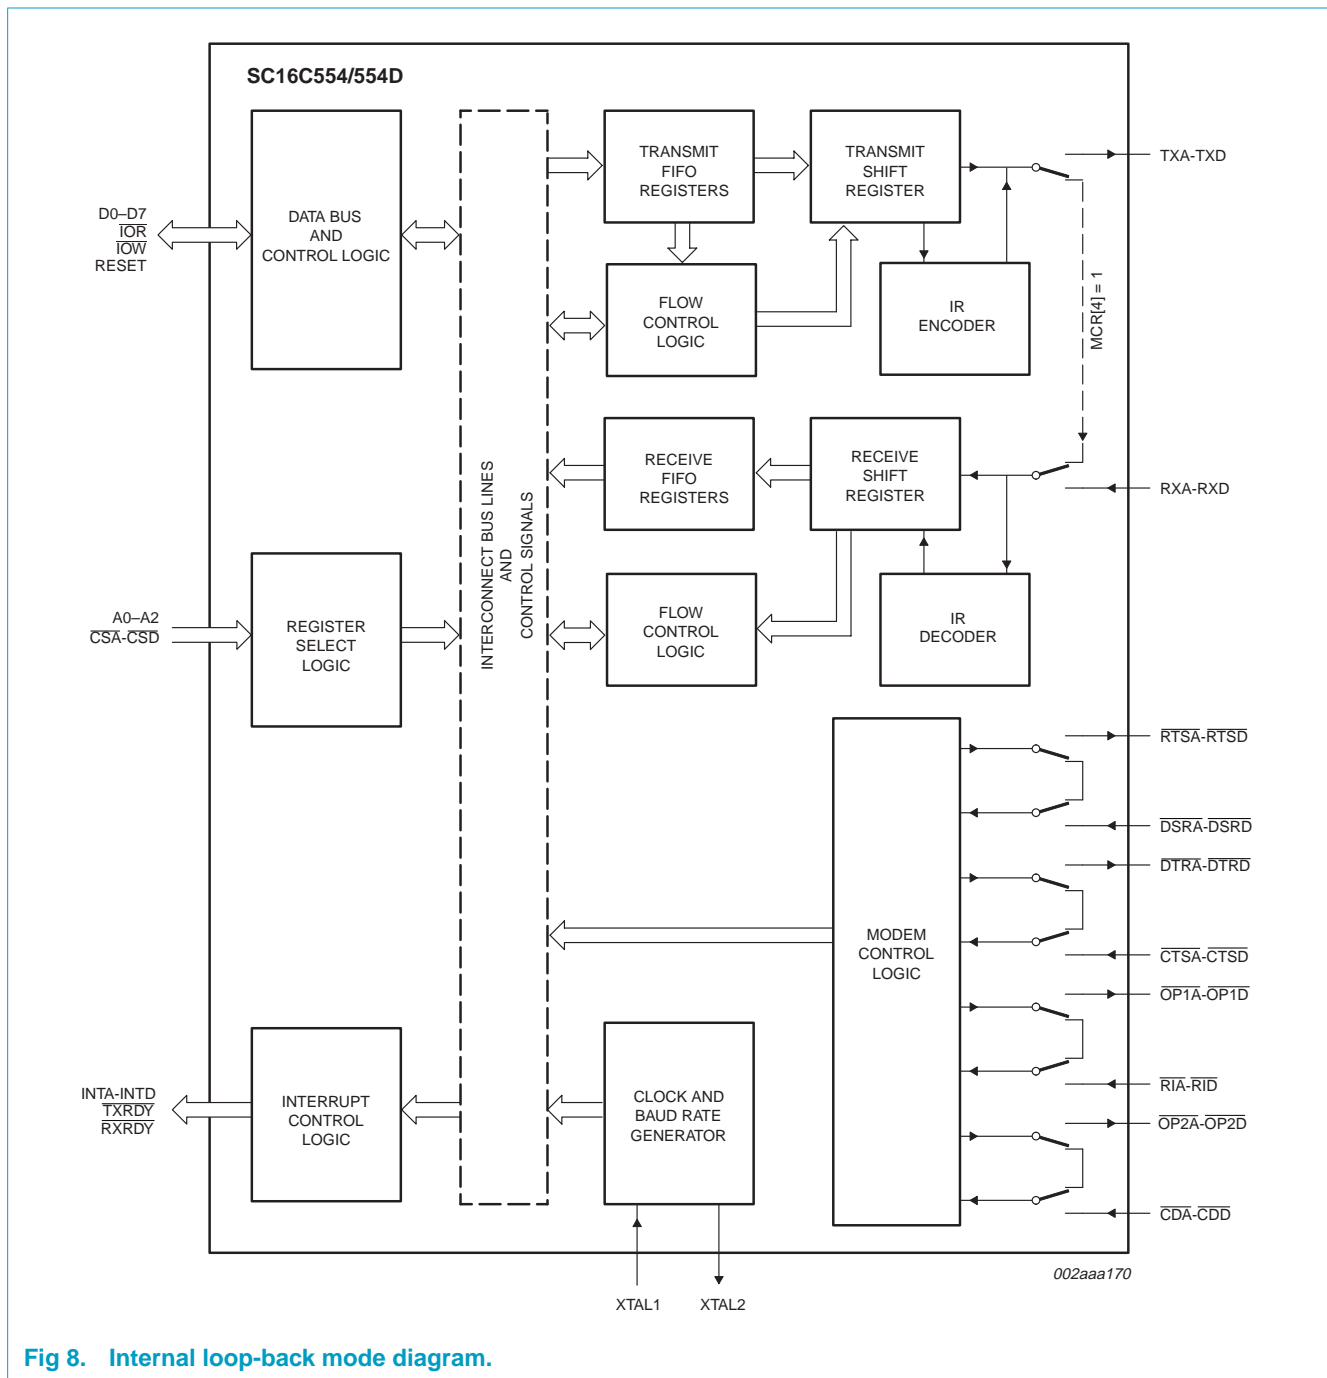

Fig 8. Internal loop-back mode diagram.
The internal loop-back capability allows on-board diagnostics. In the loop-back mode, the normal modem interface pins are disconnected and reconfigured for loop-back internally. MCR[0-3] register bits are used for controlling loop-back diagnostic testing. In the loop-back mode, $\overline{OP1}$ and $\overline{OP2}$ in the MCR register (bits 2-3) control the modem \overline{RI} and \overline{CD} inputs, respectively. MCR signals \overline{DTR} and \overline{RTS} (bits 0-1) are used to control the modem \overline{CTS} and \overline{DSR} inputs, respectively. The transmitter output (TX) and the receiver input (RX) are disconnected from their associated interface pins, and instead are connected together internally (see Figure 8). The \overline{CTS} , \overline{DSR} , \overline{CD} , and \overline{RI} are disconnected from their normal modem control input pins, and instead are connected internally to \overline{DTR} , \overline{RTS} , $\overline{OP1}$ and $\overline{OP2}$. Loop-back test data is entered into the transmit holding register via the user data bus interface, D0-D7. The transmit UART serializes the data and passes the serial data to the receive UART via the internal loop-back connection. The receive UART converts the serial data back into parallel data that is then made available at the user data interface D0-D7. The user optionally compares the received data to the initial transmitted data for verifying error-free operation of the UART TX/RX circuits.